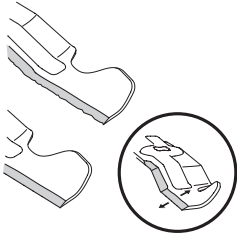

Figure 26
5. To properly sharpen the cutting blade, remove equal amounts of metal from both ends of the blade along the cutting edges, parallel to the trailing edge, at a 25° to 30° angle. Always grind each cutting blade edge equally to maintain proper blade balance (Figure 26).